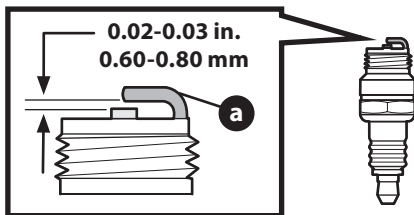

Figure 13
6. Measure the plug gap with a feeler gauge. Correct as necessary by bending side electrode (a) (Figure 13). The gap should be set to 0.020 - 0.03 in. (0.60 - 0.80 mm).